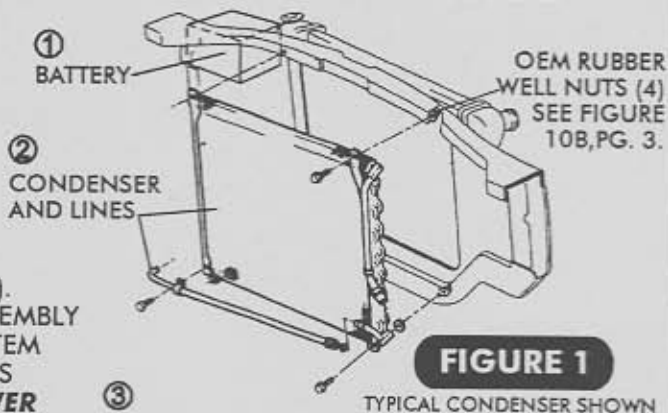

FIGURE 1
- 1. BATTERY AND BATTERY BOX (RETAIN). SEE FIGURE 1 AND 3.
- 2. CONDENSER AND LINES (DISCARD). RETAIN RUBBER WELL NUTS. SEE FIGURE 1.